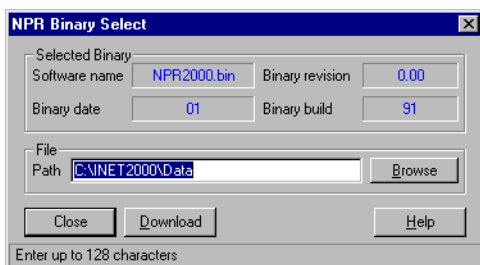

Figure 3-24. NPR Binary Select Dialog
5. Initiate the firmware download to the marked NPRs by selecting **Download**. This option is available only when an NPR is marked with **[X]** in the **D/L** column. The system displays the NPR Binary Select dialog (see Figure 3-24).